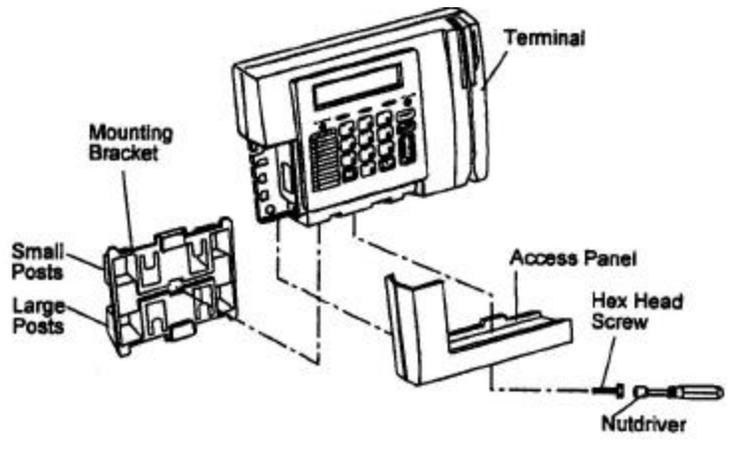

Figure 9: Access Panel & Mounting Bracket Removal
1. Removing the access panel and mounting bracket from the terminal. Refer to Figure 9.
- (a) Remove the mounting bracket as explained in Figure 9.